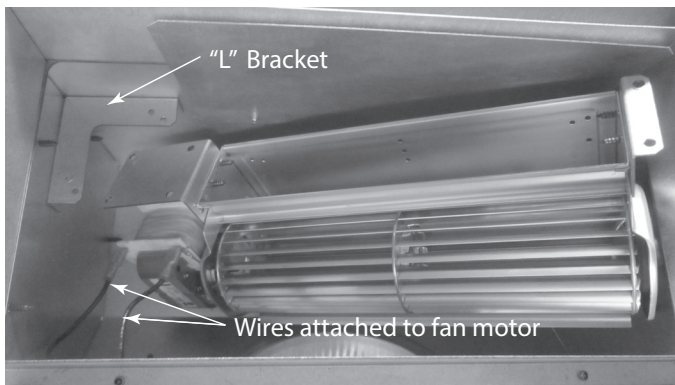

Figure 6
- Insert fan into the fan housing starting with motor end first. Slip it below the "L" bracket on the left side allowing the right side to drop in. See Figure 6.